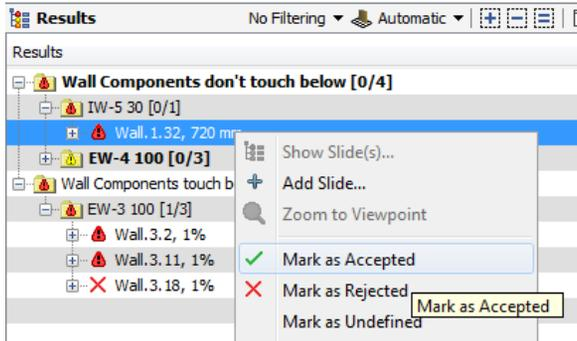

Figure 59 Accepting issues
(17) Right click the "Wall Components don't touch below" -> "IW-5 30"> and you will get a pop-up window with other ways to mark the results. Choose "Mark as Accepted" this time (see Figure 59).